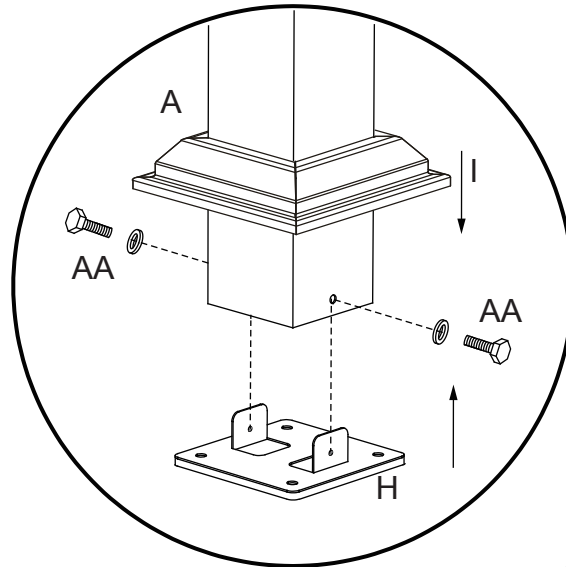

Fig 1
- 1.1. Insert the Post (A) into the Base Cover (I) and connect it to the Base (H) with Bolt (AA). See Fig 1.